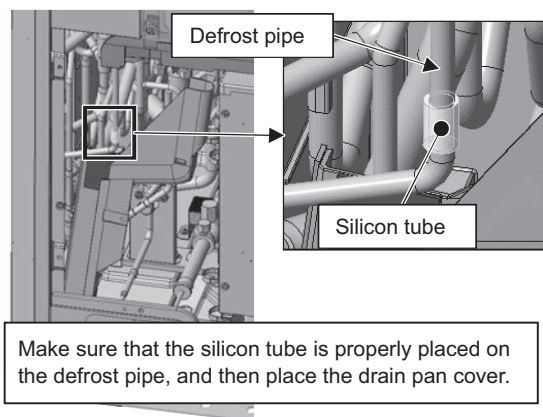

Figure 9
- (3) Make sure that the silicon tube is properly placed on the defrost pipe, and then place the drain pan cover. (See Figures 9 and 10.)